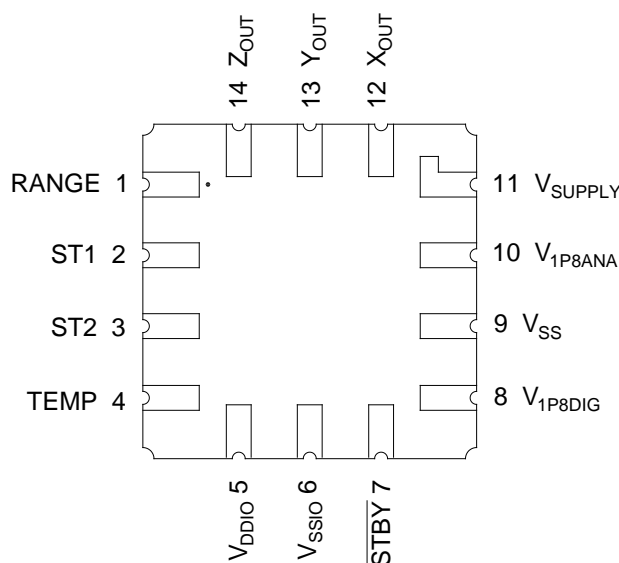

FIGURE 2. Terminal connections.
3.5.2 Terminal connections. The terminal connections shall be as shown in figure 2.